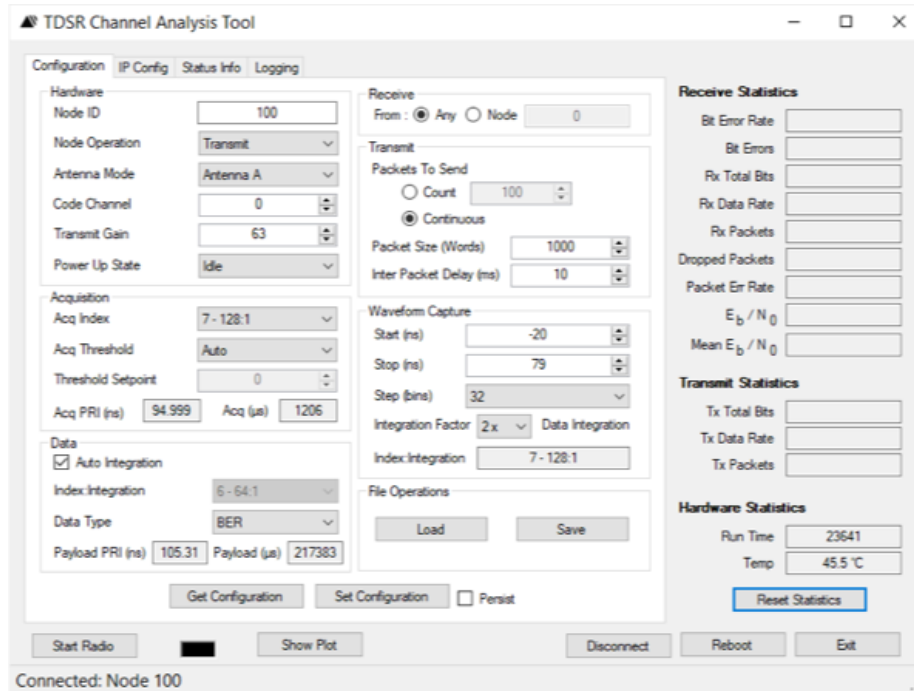

Fig. 22: CAT connected to the P452
3. If the connection is successful, click the **Connect!** button. The main operating window will open (**Figure 22**). In the bottom left corner, you should see a message confirming that CAT is connected to Node 100.